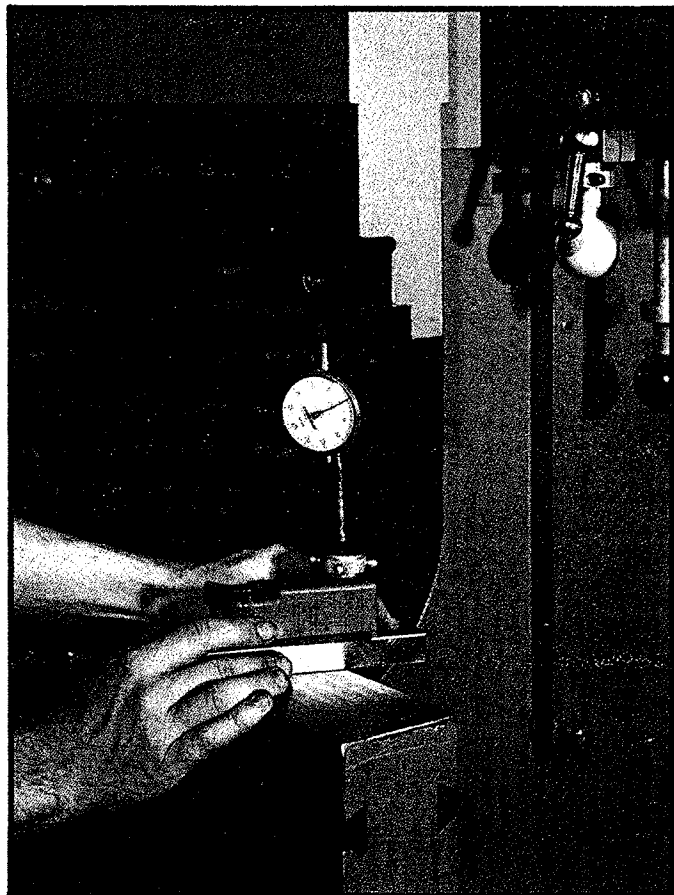

FIGURE 44
3. Mount a dial indicator on the extreme right end of the bed so it indicates the bottom reversal point of the ram. Figure 44. (Do not indicate off the ram die clamps.)